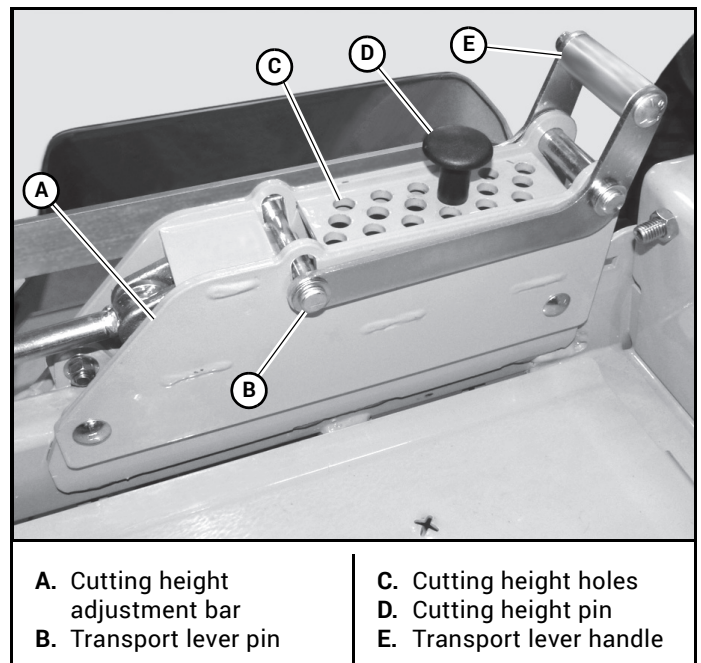

Figure 3-17
The deck cutting height is adjustable in 1/4" (6.3mm) increments. The holes in the height adjusting bar are spaced at 1/4" (6.3mm) intervals. Figure 3-17
2. Release the deck lift pedal. Figure 3-17